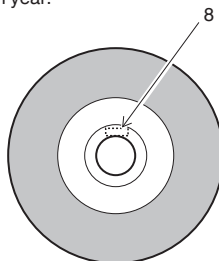

Fig. 10
- When you use the abrasive cut-off wheel check the expiration year marked (8) on the wheel before attaching. (Fig. 10)